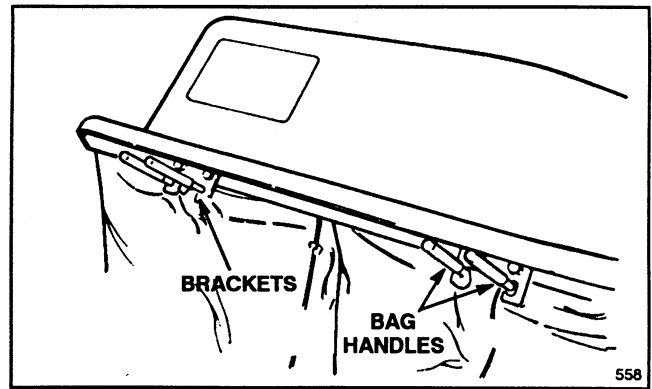

Figure 7
2. Lift rear of bag up to bag cover. Squeeze bag handles, allowing them to be positioned in bag frame brackets. Release bag handles, locking them in brackets (Fig. 7).